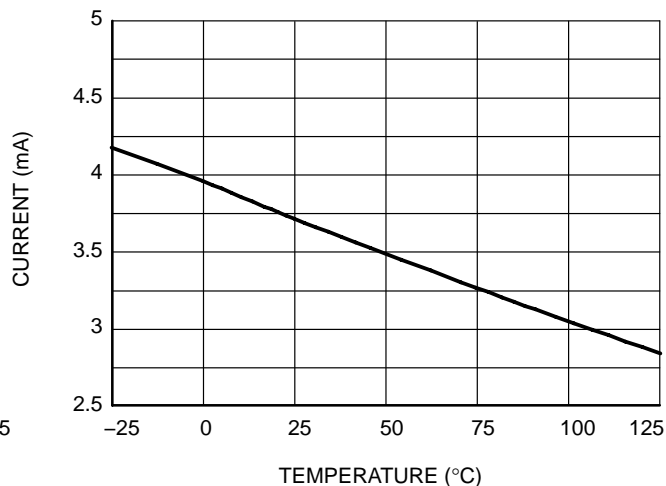

Figure 10. High Voltage Current Source Level Evolution versus Temperature when $V_{CC} = 10\text{ V}$
4. Min. value for $T_J = 125^\circ\text{C}$ (See Figure 10).